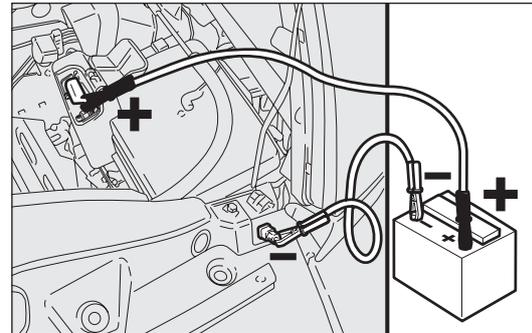

fig. 158
- connect the negative terminal (-) of the auxiliary battery to the earth point with a second cable as shown in fig. 158;